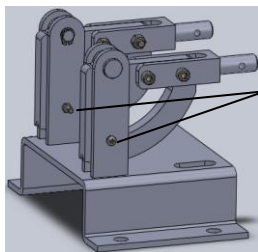

Figure 8
- ① Confirm the main electric source is power off before operation.
- ② Pull out the position-limit screw (if not, the arc wheel lever couldn't rotate). Shown as figure 8: